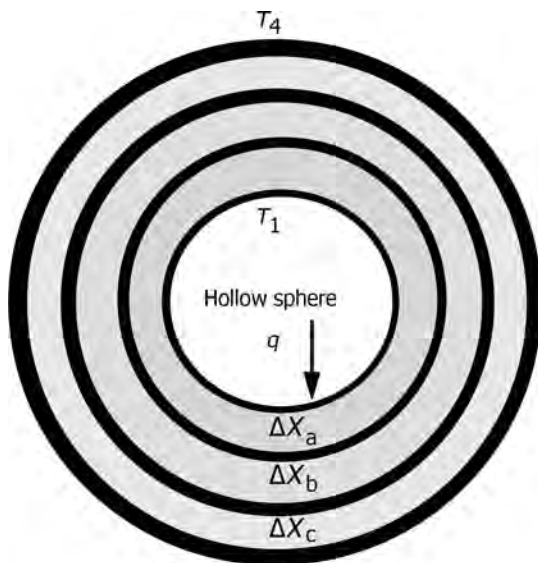

FIGURE 8.11 Multilayer hollow sphere.
- In the above equation, contact resistance between the adjacent layers is neglected. This is true if the layers of the composite cylinder are bonded together to provide intimate contact between adjacent layers, excluding any air gaps or gaps containing any contaminants. Multilayer hollow sphere: One-dimensional heat conduction ((Figure 8.11).